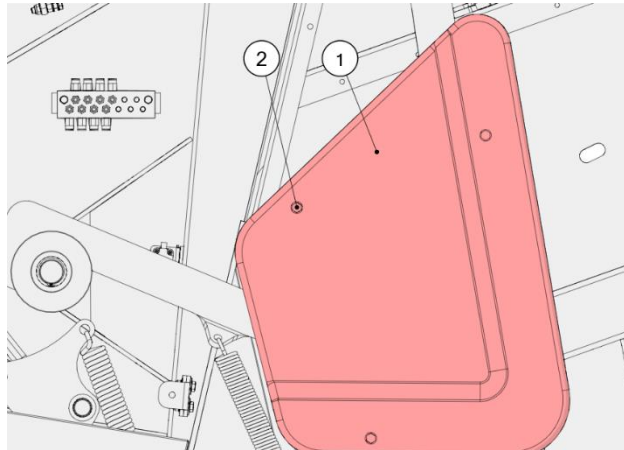

Figure 59. The lock's guard
- Remove the lock's guard (1) by undoing the bolts (2), as shown in Figure 59;